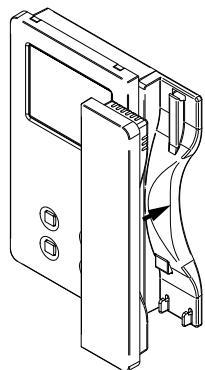

Fig. 7
- Reconnect the handset and hang it as shown in **Fig. 7**.